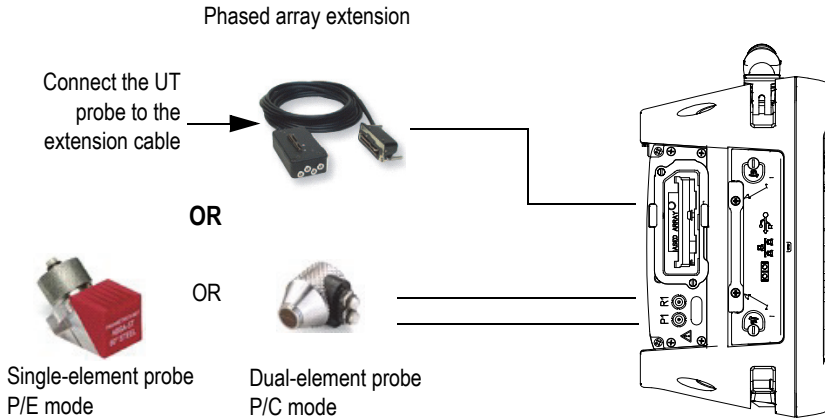

Figure 1-5 Requirements for UT probe connection
The OmniScan MXU software combines both the phased array (PA) and conventional ultrasound (UT) operation modes. Depending on the module installed at the back of the OmniScan MX2, you can use UT or PA probes. Connect UT probes to the UT connectors, as shown in Figure 1-5 on page 12. Use a dual element probe for the pitch-catch (P/C) mode. You can also plug a UT probe into the PA connector using an adaptor.